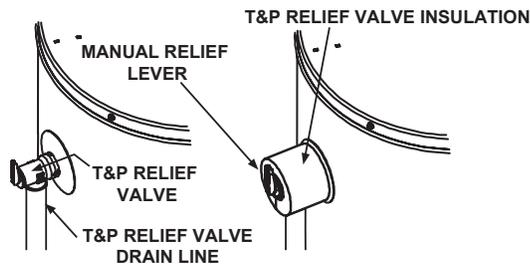

FIGURE 15
For protection against excessive pressures and temperatures, a temperature and pressure relief valve must be installed in the opening marked "T&P RELIEF VALVE" (see Figure 15). This valve must be design certified by a nationally recognized testing laboratory that maintains periodic inspection of the production of listed equipment or materials as meeting the requirements for Relief Valves for Hot Water Supply Systems, ANSI Z21.22/CSA 4.4-current edition. The function of the temperature and pressure relief valve is to discharge water in large quantities in the event of excessive temperature or pressure developing in the water heater. The valve's relief pressure must not exceed the working pressure of the water heater as stated on the rating plate.
3. Spread the slit open and fit the insulation over the T&P relief valve (see Figure 15). Apply gentle pressure to the insulation to ensure that it is fully seated on the T&P Relief Valve. Once seated, secure the insulation with duct tape, electrical tape, or equivalent. **IMPORTANT:** The insulation or tape should not block or cover the T&P relief valve drain opening. Also, the insulation or tape should not block or hinder access to the manual relief lever (see Figure 15). Ensure that a discharge pipe is installed into the T&P valve discharge opening per the instructions in this manual.